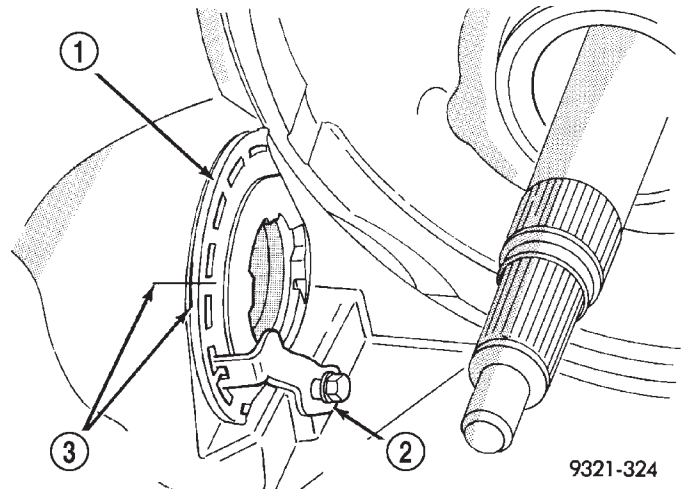

Fig. 114 Indexing Inner Adjuster
(3) Index the inner differential adjuster with a cross hair as shown in (Fig. 114).